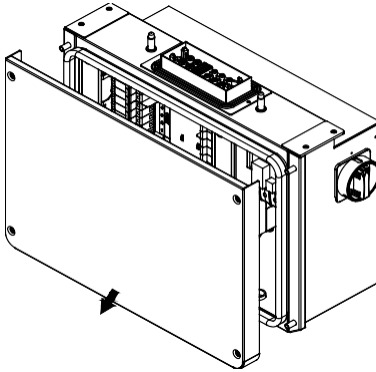

Figure 3-19 Removing the Wiring Box Cover
Step 1 Use a No. 3 Philips head screwdriver to remove the 4 screws on the wiring box and remove the cover. (See Figure 3-19)